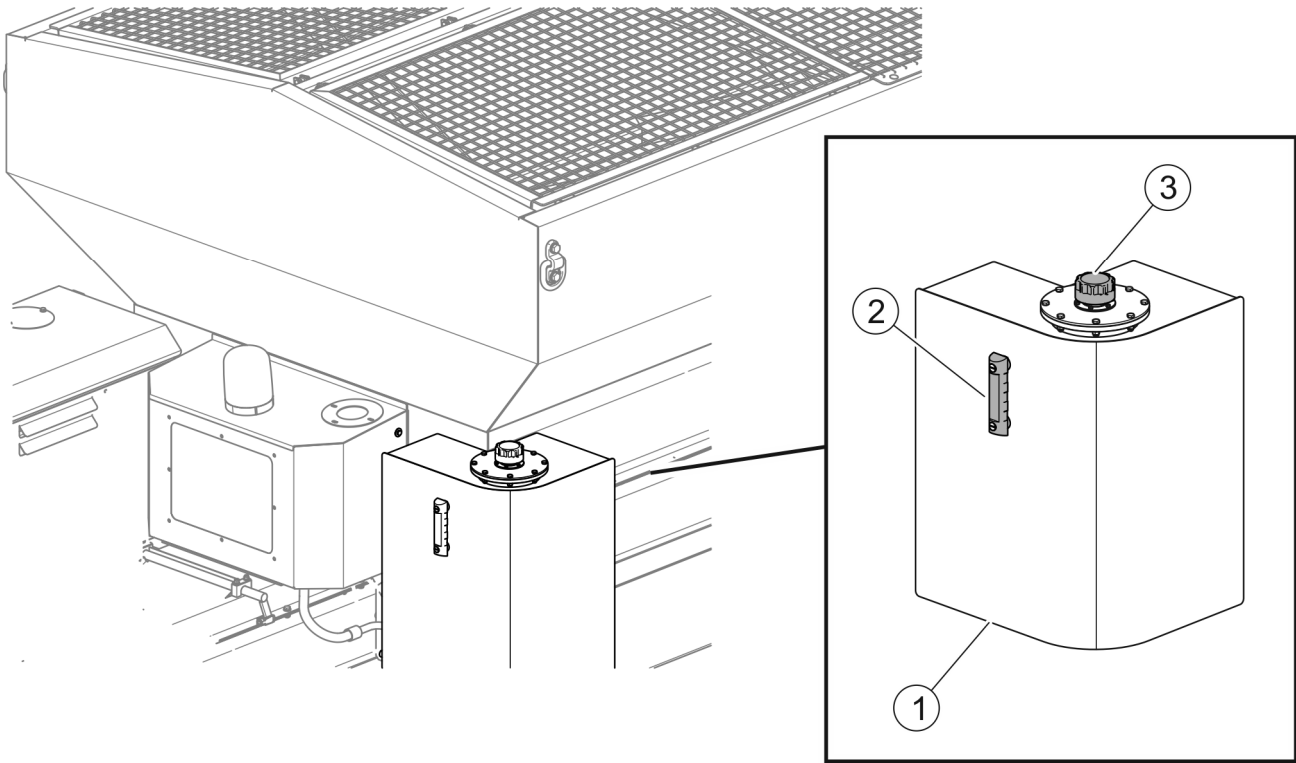

FIGURE 5.2 Checking the hydraulic oil level
- Check hydraulic oil level on the oil level indicator (2) (FIGURE 5.2).
- If oil level is too low, unscrew filler plug (3) and supplement oil.